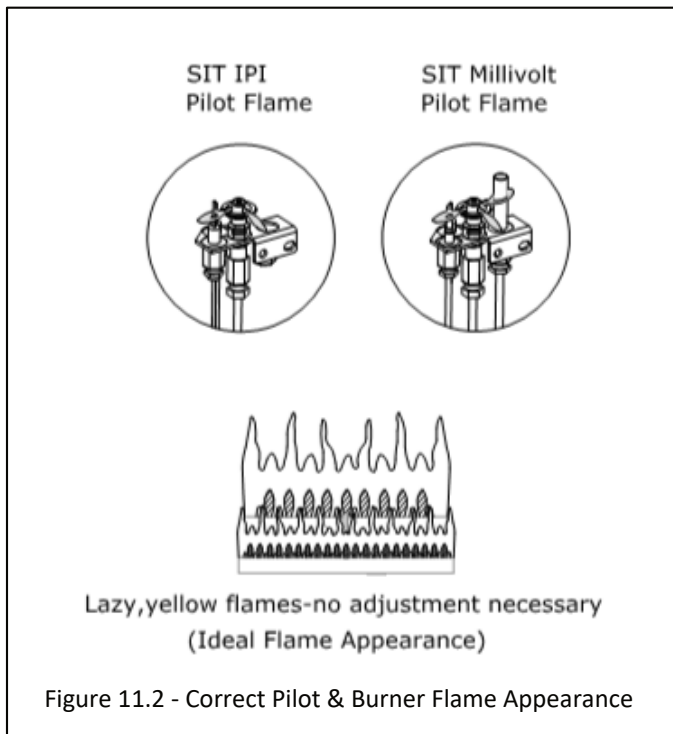
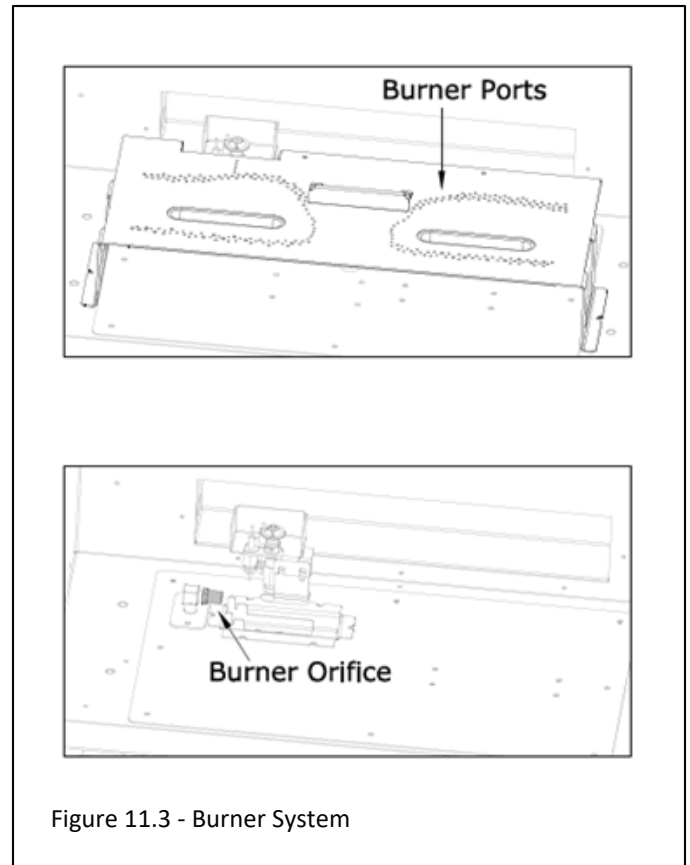

Figure 11.2 - Correct Pilot & Burner Flame Appearance
Figure 11.3 - Burner System
Verify gas supply is turned on and filled. Consult with plumber or gas supplier as necessary. Refer to Figure 11.3 for inspection of the burner system. Refer to Figure 11.2 for proper flame appearance.
- Inspect and ensure the lighting of the main burner occurs within (4) seconds of the main gas valve opening. Check for faulty or incorrect wiring and correct or replace as necessary. Inspect primary air openings (burner ports) for blockage, especially near the pilot. Burner ports are shown in Figure 11.3.
- Test and measure the flame failure response time of the flame safety system. It must de-energize the safety shutoff in no more than (30) seconds.